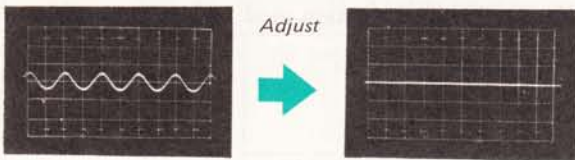

Fig. 3-6. Fm discriminator alignment output response
4. If the discriminator transformer IFT201 is not aligned correctly, 400 Hz ripple will be observed as shown in Fig. 3-6.
5. Turn the secondary side core of discriminator transformer IFT201 (see Fig. 3-10) to obtain a minimum indication on the oscilloscope with an alignment tool as shown in Fig. 3-6.